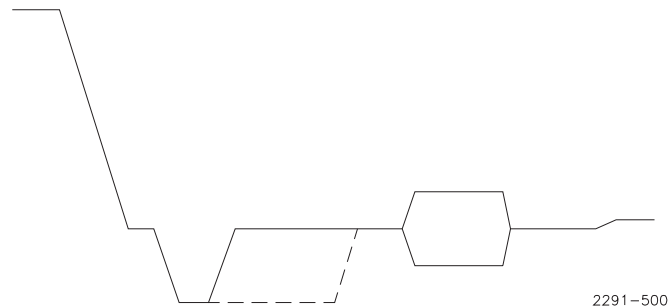

Figure 5-3. Sync Removal
- Adjust R131 until the waveform in Figure 5.3 is obtained. This adjustment will move most of the sync pulse to the blanking level.